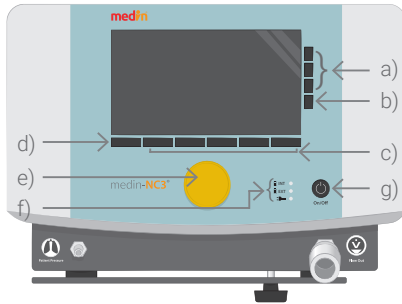

Figure 5-1: Operating unit of the medin-NC3:
The medin-NC3 is started and its system test is automatically triggered by pressing the "On/Off" button (Figure 5-1 – g). This test examines the functions of the medin-NC3, checks the oxygen calibration and determines the properties of the tube system to which it is connected.
- **Basic CPAP settings:** (Figure 5-1-a) to select and adjust the two basic CPAP parameters of oxygen concentration (FiO_2 and Flow). In addition, to set the additional flow for pushes (F_{insp}) and to trigger an O_2 flush.
- **Push button (PUSH):** (Figure 5-1-b) to trigger a push manually and immediately
- **Other settings:** (Figure 5-1-c) to select and alter mode-specific and other settings
- **Alarm:** (Figure 5-1-d) to confirm alarms and control alarm statuses. Pressing this button results in an active alarm being transferred to "Confirmed" status; the associated alarm sound is muted for 120 seconds and then reactivated. By pressing the button again, the alarm sound can be switched to become audible again before the 120 seconds are up. However, if a new alarm becomes active during the mute period, this will also be emitted acoustically. In addition, the status Audio paused can be ended using this button. A countdown shows the user how much time remains in the Confirmed and Audio paused statuses.
- **ON/OFF:** (Figure 5-1-g) to switch the medin-NC3 on and off
In addition to the buttons, the operating unit has a dial for variable setting of the values (Figure 5-1-e), as well as
LED displays for fast information about the battery and charge statuses (Figure 5-1-f).